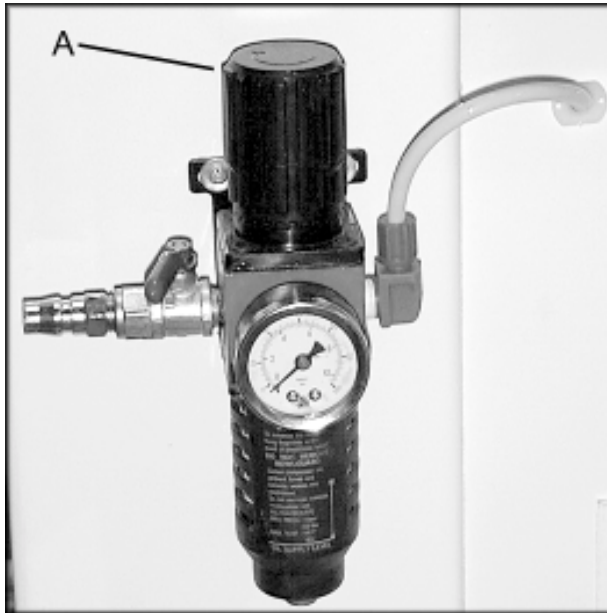

FIGURE 2
Connect the machine to an air hose. The air pressure that flows into the filter can be adjusted with the knob (A), Figure 2. Normal working air pressure should be set at 75 psi, which can be read on the pressure gauge.